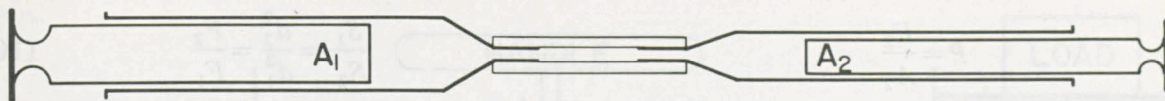

Figure 23. Two syringes coupled together to form a two-piston hydraulic system.
1. Use the syringes as a two-piston system, as shown in Figure 23. Demonstrate that matter is conserved as oil is transferred from one cylinder to the other. Measure the diameters of the two syringe plungers. Note that the syringes are marked for volume displacement in cc (cm³).